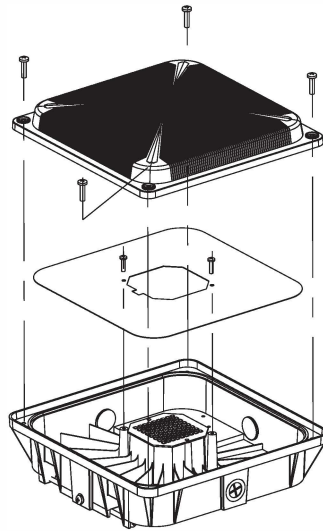

FIG. 10
5. Remove the lens and reflector, pull the incoming wire to the inside of the fixture. See Fig. 10.